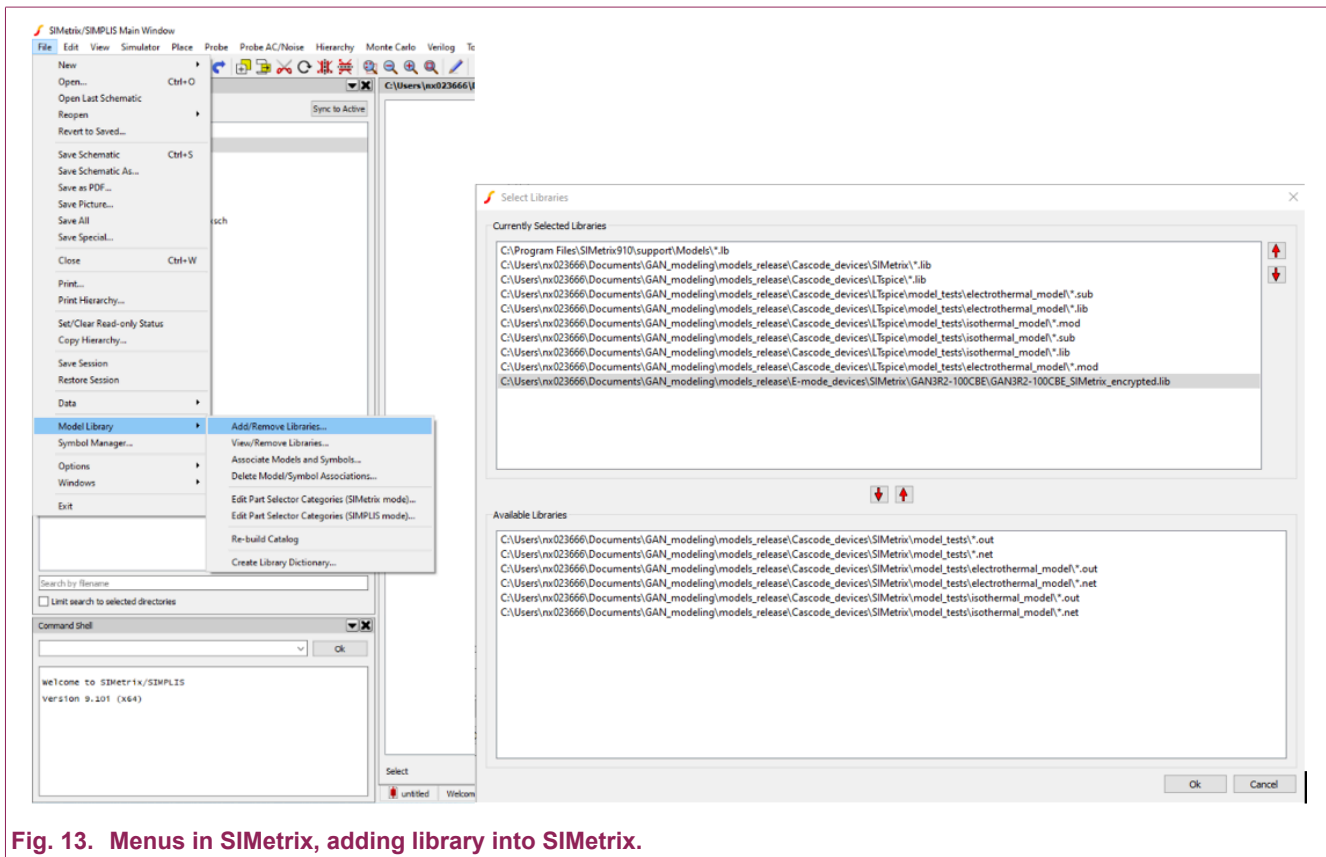

Fig. 13. Menus in SIMetrix, adding library into SIMetrix.
1. Import lib file: File -> Model Library -> Add/Remove Libraries -> Select Spice File folder -> Ok (or directly drag the model file into the command window of SIMetrix which is located in bottom-left corner by default), see Fig. 13: